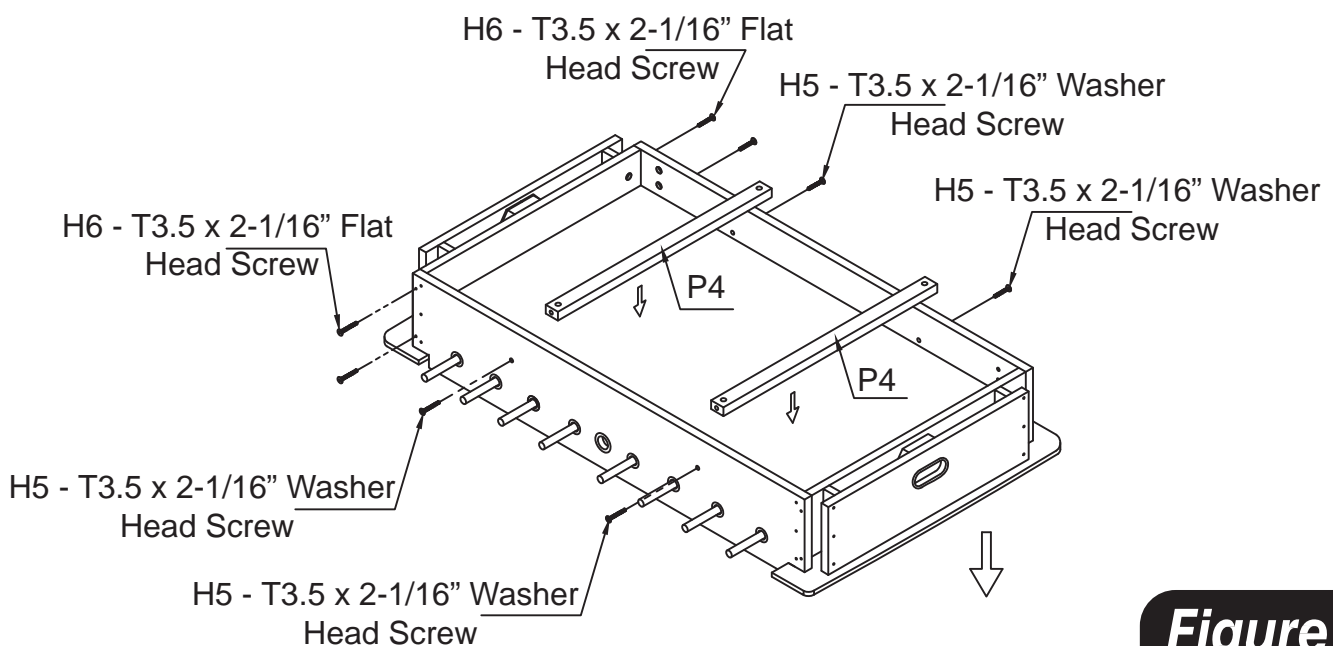

Figure 3
8. Place two Support Braces P4 on Playfield P3 as shown in **FIGURE 3**. Attach them using four of Washer Head Screw H5 as shown in **FIGURE 3**.